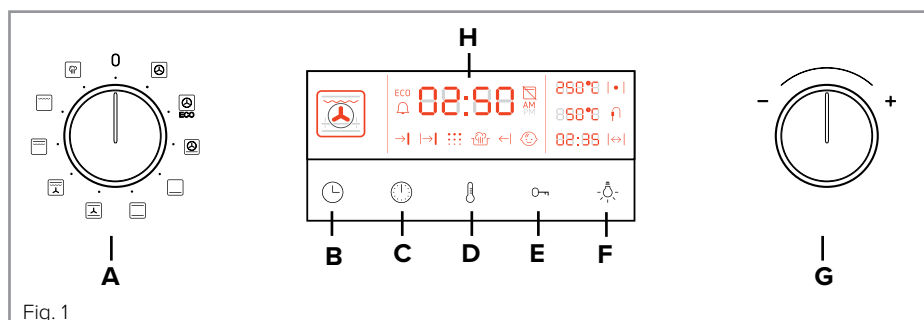

Fig. 1
To set a function, turn the cooking function knob (A in Fig. 1) to the required function. Most functions have a preset temperature (see page 8). The adjustment knob (G) can be used to change this (see below). Turn the knob left to lower the temperature and right to raise it.
After connection to the mains supply, or re-connection after a power outage, the display will show '24hr'. Use the adjustment knob (G in Fig. 1) to change between 24 hour time display and 12 hour time display.